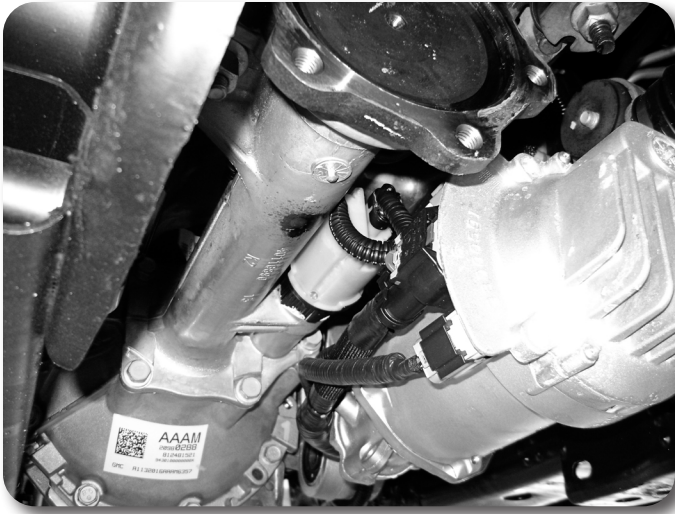

Figure 16
29. Disconnect the differential actuator wire connector from the actuator Figure 16. Remove the three wire harness clips holding the actuator harness to the differential housing.